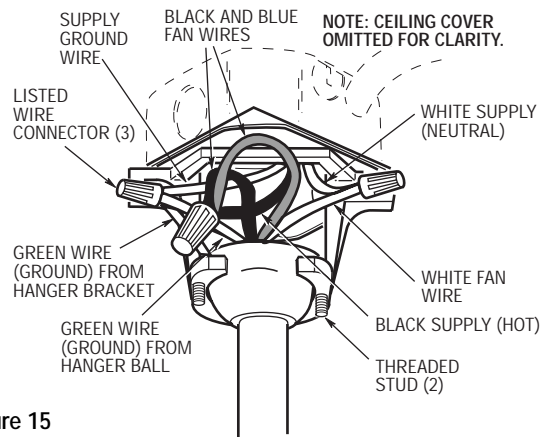

Figure 15
- 1. Connect the green grounding lead from the hanger ball and the green grounding lead from the hanger bracket to the grounding conductor of supply (this may be a bare wire or wire with green colored insulation). Securely connect wires with wire connectors supplied. (Figure 15.)
- 2. Securely connect the fan motor white wire to the supply white (neutral) wire using wire connector supplied (Figure 15). Securely connect the fan motor black wire and blue wire to the supply black (hot) wire using wire connector supplied (Figure 15). After connections have been made, turn leads upward and carefully push leads into the outlet box, with the white and green leads on one side of the outlet box and the black and blue leads on the other side of the outlet box.
- 3. Screw the two threaded studs (supplied) into the tapped holes in the hanger bracket (Figure 15).